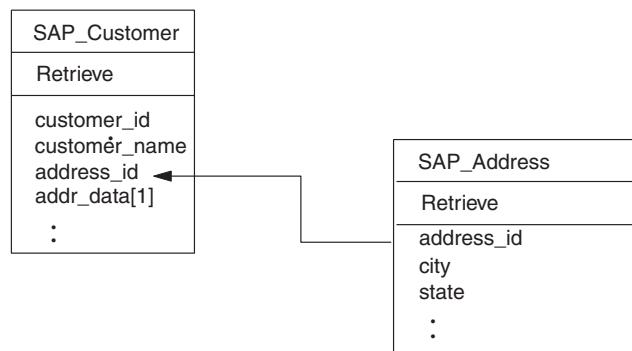

Figure 60. Example customer and address relationship
- In a single-cardinality relationship, the foreign key is determined by the primary key in the child referencing a **non-key** attribute in the parent as its foreign key. Each child has at least one simple attribute that references a non-primary key attribute in its parent as a foreign key. Figure 60 provides an example.
Figure 60 provides an example of a simple WebSphere business object developed to process customer objects in SAP. This example SAP\_Customer has a single-cardinality relationship to the example address object that it contains (the addr\_data[1] attribute has cardinality 1). The primary key attribute (address\_id) in the child business object references a non-primary key (address\_id) in the parent business object.